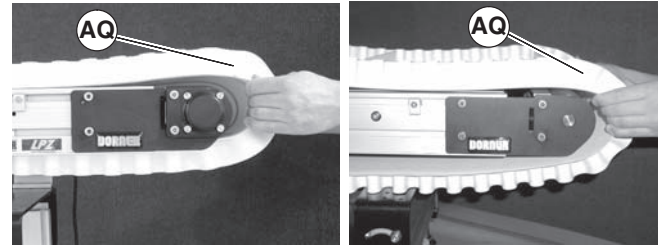

Figure 32
- Install belt (Figure 32, item AQ) on conveyor. Lift conveyor slightly to avoid pinching belt on temporary support stands.